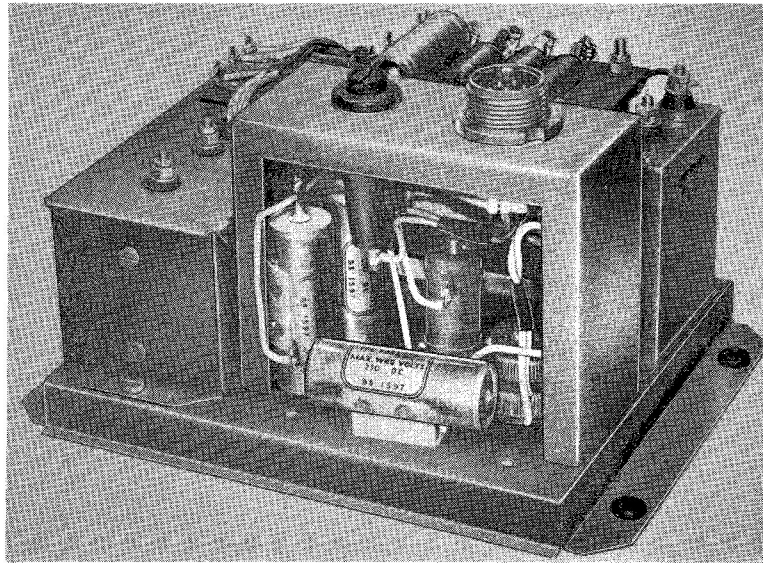

Fig. 2. Interior view, cover removed
3. All components are mounted on a chassis formed by the base of the unit, the vibrating component being enclosed in its own dust-proof metal box secured to the base by two 4 B.A. bolts and stiff-nuts (fig. 2).